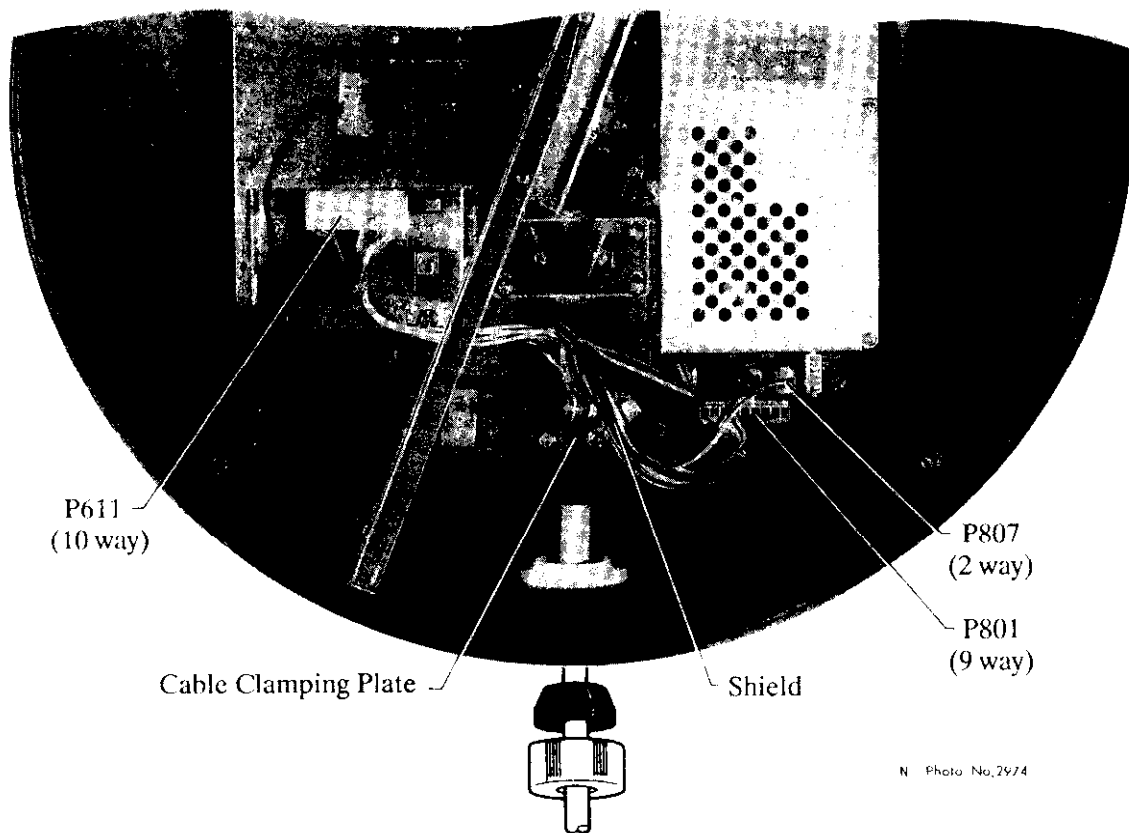

Figure 6-7 Cable Connections and Grounding
2. Remove the cable clamping plate by loosening two M4 screws at the radome base. See Figure 6-7.
4. Secure the cable with the cable clamping plate and gaskets. Ground the shield by using one of the fixing screws for the cable clamping plate. See Figure 6-7.
5. Mate three plugs P801 (9 way), P807 (2 way) and P611 (10 way), referring to Figure 6-7.